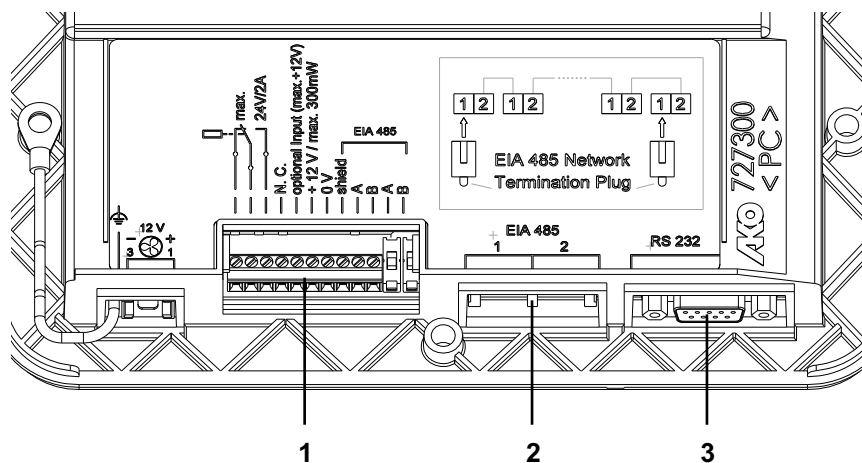

Fig. 10 Layout of network terminals
- Establish connection between inverters or inverters and monitoring devices on serial interface EIA485 using a cable with RJ45 plugs or cable on terminal connector (connection A and B) (see Fig. 10).